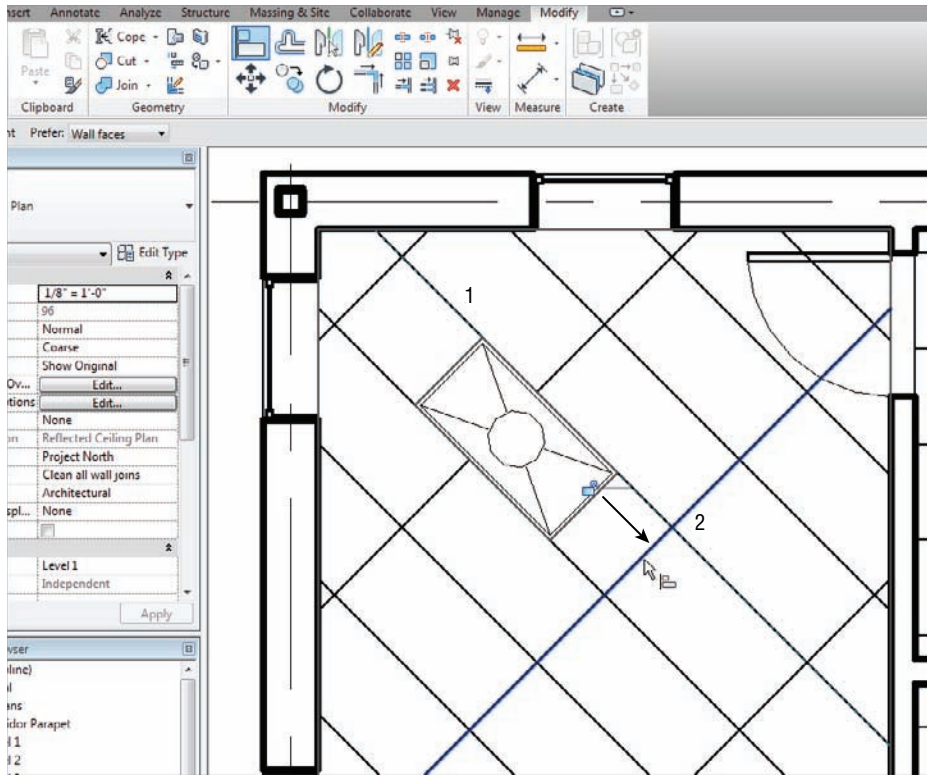

FIGURE 9.47 Aligning the fixture to the grid
8. Click the Align button on the Modify tab, as shown in Figure 9.47.